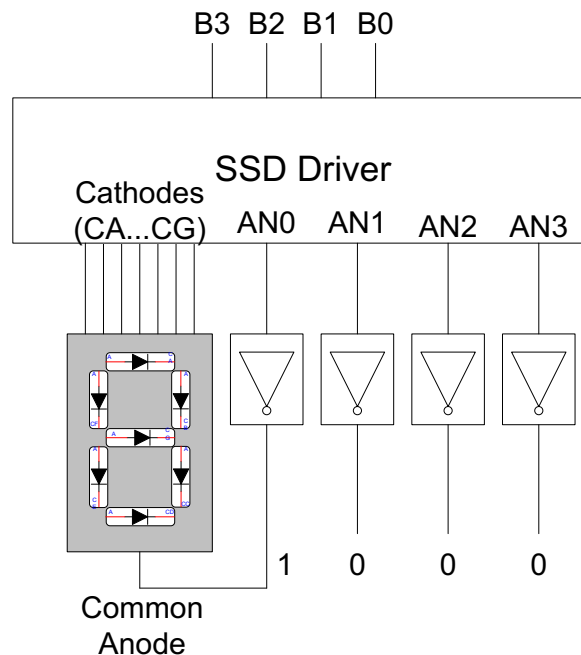

Figure 5. Block Diagram of Seven-Segment Display Driver
Figure 5 shows the block diagram of the design. The SSD Driver is the circuit you will be drawing using the software tool, and the other parts are hardware on the FPGA board. As shown in the figure, the circuit SSD Driver has four inputs, B3, B2, B1, and B0, which take the 4-bit binary number, assuming the inputs from 1010 to 1111 will never happen. It provides seven outputs CA, CB, CC, CD, CE, CF, and CG which are connected to the seven cathodes of the SSD. Four more output AN0 ~ AN3 are also given from the SSD Driver, which are used to enable one of the four SSDs and disable the rest.
**NOTE: in Figure 5, the outputs AN0 ~ AN3 are connected to the common anodes through inverter-like parts. This connection is specific to the hardware platform that we are using.**